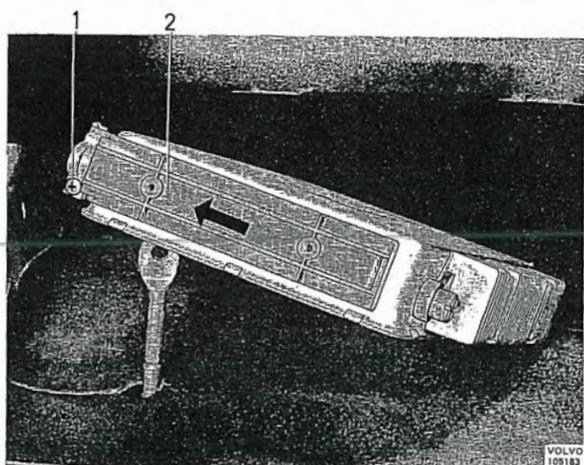

Fig. 2-94. Removing control unit
3. Remove the screw (1, Fig. 2-94) for the cap holding the cable harness to the control unit.
4. Pull out the plastic cover strip (2, Fig. 2-94).